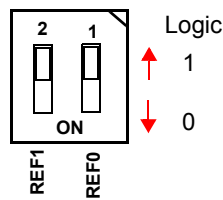

FIGURE 1. TYPICAL U2 DEFAULT SETTING 11 (1.500V)
4. Set the “REF Selection” DIP switch (U2) to 11 corresponding to DAC = REF = 1.5V. Figure 1 details the typical default configuration for U2 when the board is received. In this default setting, the evaluation board is set for a reference voltage of 1.5V.